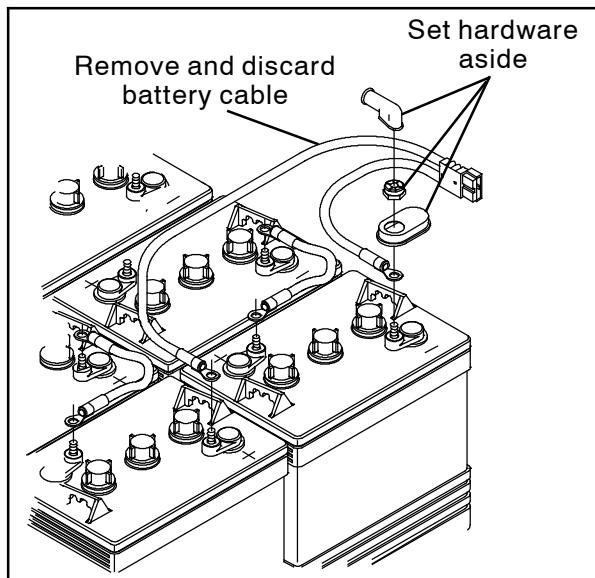

FIG. 1
5. Disconnect the existing battery cable from the batteries. Set hardware aside. Discard the removed battery cable. (Fig. 1)